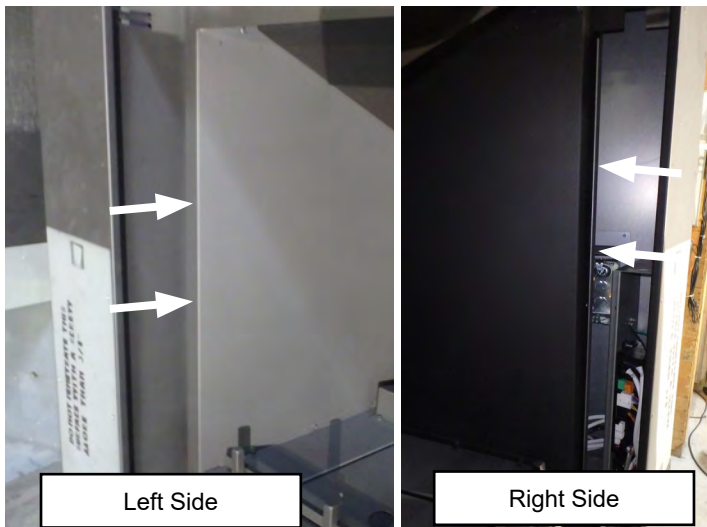

Figure 6.5.01:
2. Slide the access doors back as shown in **Figure 6.5.01**.
2. Slide the access door back as shown in **Figure 6.5.01**.